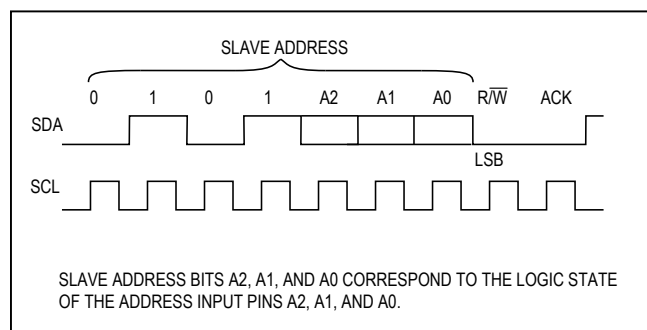
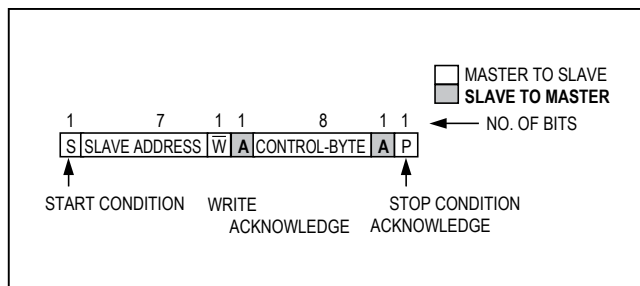
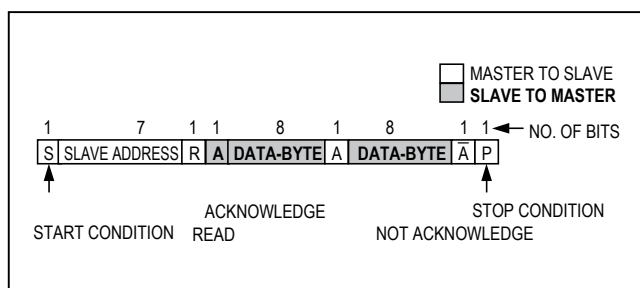
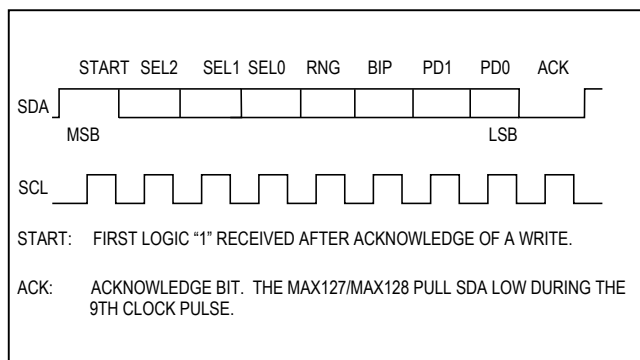

Figure 3. Address Byte
Figure 6. Write Cycle
Figure 7. Read Cycle
Figure 8. Command Byte
The MAX127/MAX128 have a 7-bit-long slave address. The first four bits (MSBs) of the slave address have been factory programmed and are always 0101. The logic state of the address input pins (A2–A0) determine the three LSBs of the device address (Figure 3). A maximum of eight MAX127/MAX128 devices can therefore be connected on the same bus at one time.
A conversion cycle begins with the master issuing a START condition followed by seven address bits (Figure 3) and a write bit ( $R/\overline{W} = 0$ ). Once the eighth bit has been received and the address matches, the MAX127/MAX128 (the slave) issues an acknowledge by pulling SDA low for one clock cycle ( $A = 0$ ). The master then writes the input control byte to the slave (Figure 8). After this byte of data, the slave issues another acknowledge, pulling SDA low for one clock cycle. The master ends the write cycle by issuing a STOP condition (Figure 6).
Once a conversion starts, the master does not need to wait for the conversion to end before attempting to read the data from the slave. Data access begins with the master issuing a START condition followed by a 7-bit address (Figure 3) and a read bit ( $R/\overline{W} = 1$ ). Once the eighth bit has been received and the address matches, the slave issues an acknowledge by pulling low on SDA for one clock cycle ( $A = 0$ ) followed by the first byte of serial data (D11–D4, MSB first). After the first byte has been issued by the slave, it releases the bus for the master to issue an acknowledge ( $A = 0$ ). After receiving the acknowledge, the slave issues the second byte (D3–D0 and four zeros) followed by a NOT acknowledge ( $\overline{A}=1$ ) from the master to indicate that the last data byte has been received. Finally, the master issues a STOP condition (P), ending the read cycle (Figure 7).